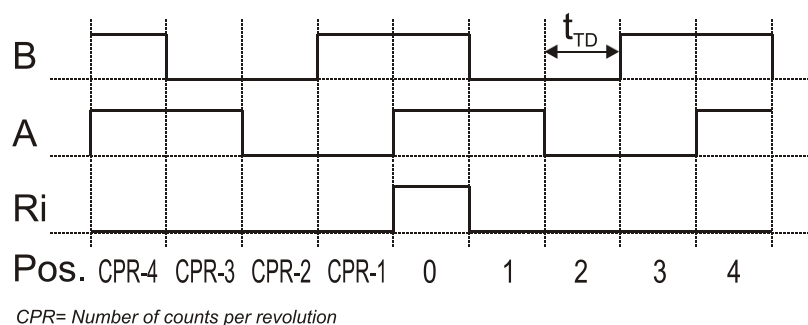

Fig. 6: Timing diagram for incremental output
** See Fig. 6. Figures are for highest values of oscillator frequency ($f_{osc} = 83$ MHz).
Fig. 6 shows the timing diagram of A, B and Ri signals with CW rotation of the magnet and positive counting direction. B leads A for CW rotation. The counting direction can be changed by swapping the A and B signals or by programming the EEPROM with negative counting direction settings.